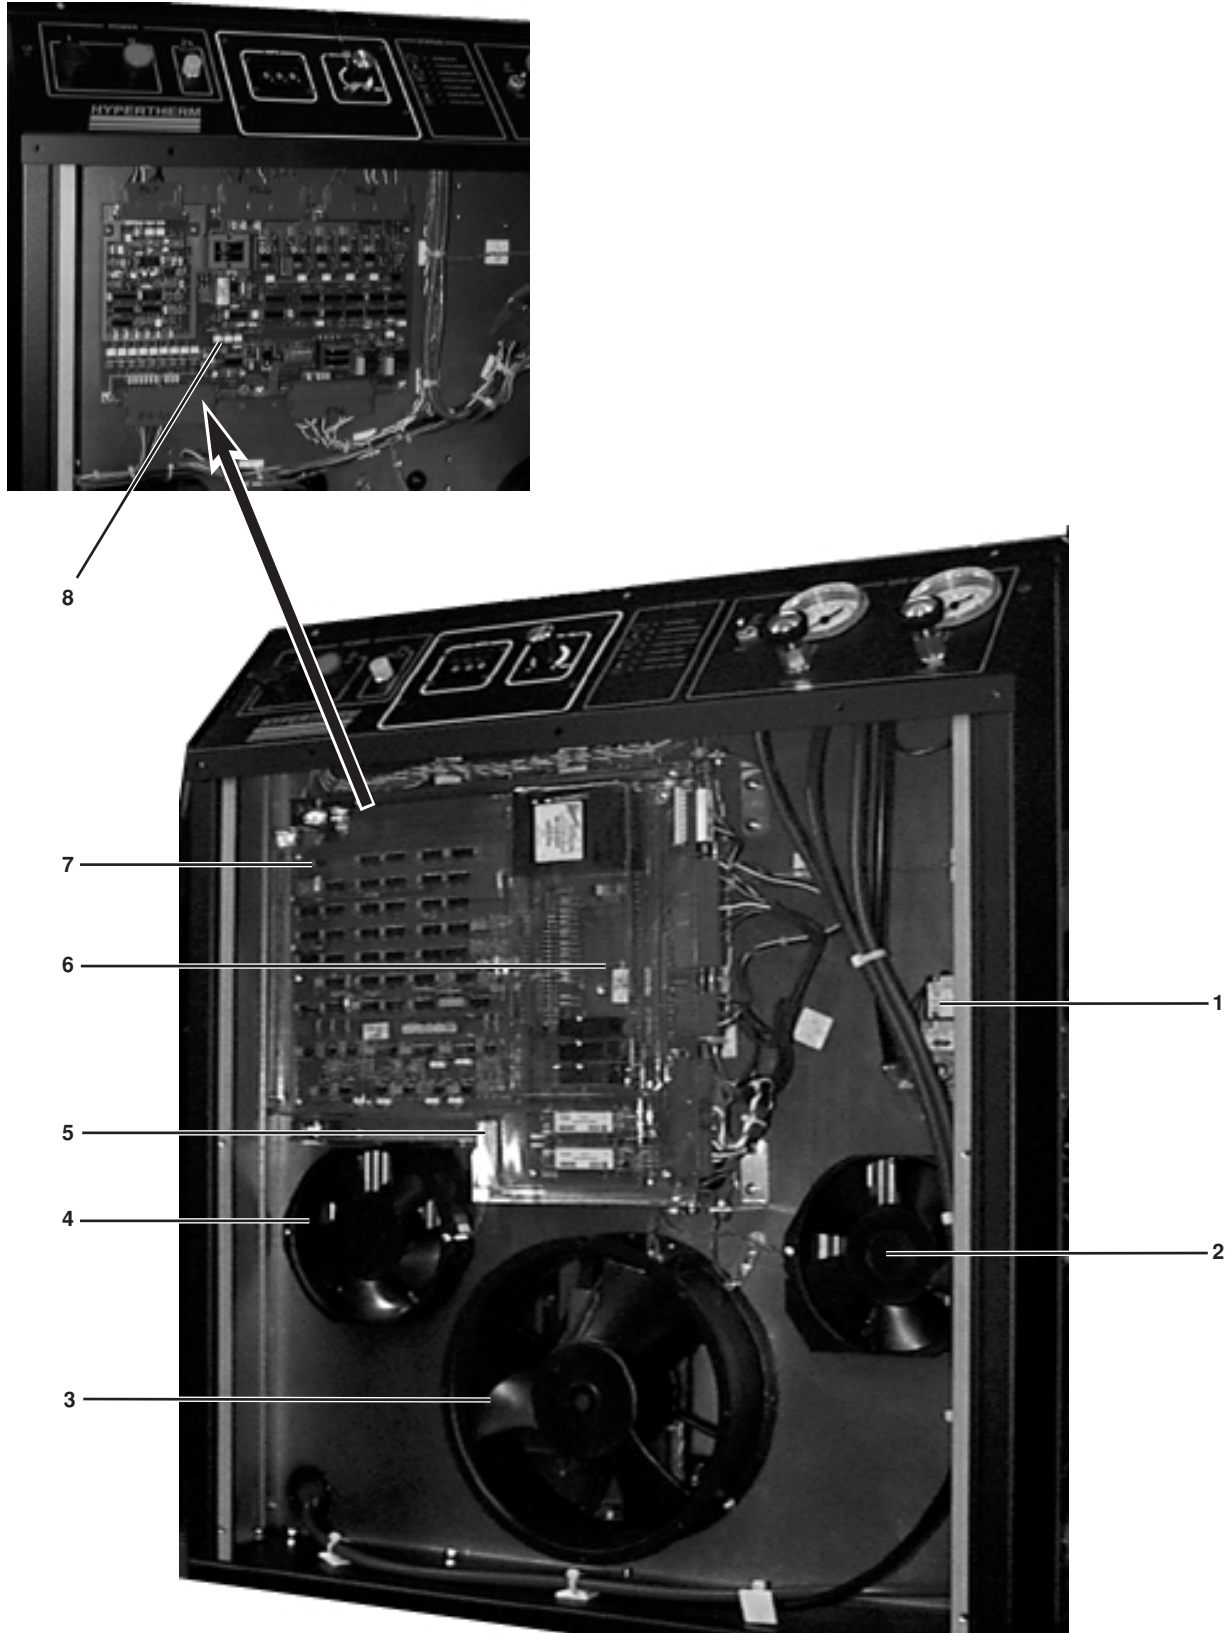

Figure 6-2 Power Supply – Front View
* Power Supplies with THC – 073020, 073021, 073022, 073023, 073024 and 073213 (CE)
** Power Supplies without THC – 073002, 073003, 073004, 073005, 073026 and 073200 (CE)
*** Items not shown in Figure 6-2. Refer to MAX200 Service Manual IM-162 (801620), Section 3, *Routine Maintenance* to check and replace filter.